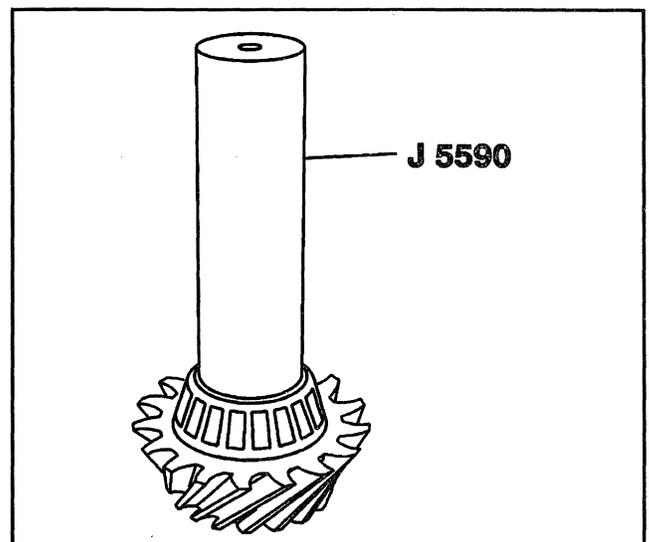
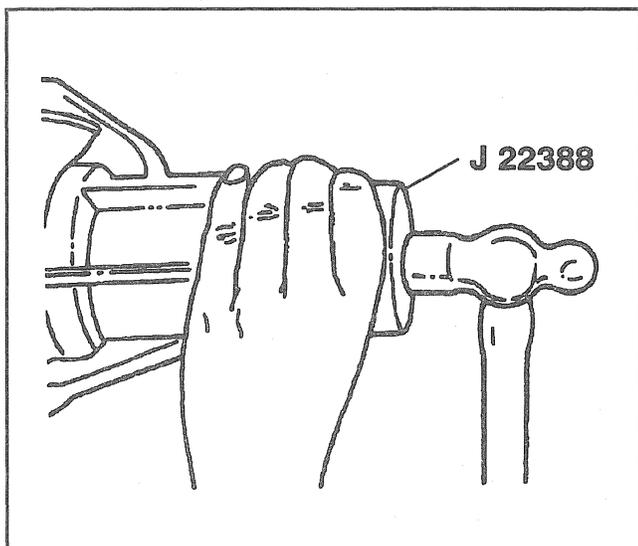
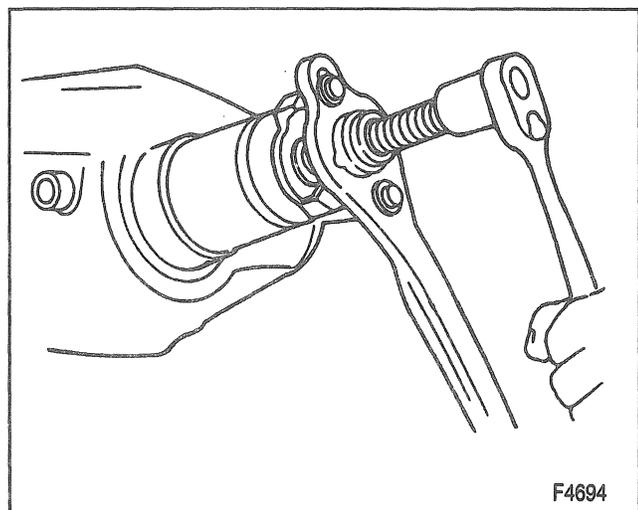

Figure 15—Installing the Pinion Inner Bearing
Figure 16—Installing the Pinion Oil Seal
Figure 17—Installing the Pinion Flange
- Press the bearing onto the pinion until the bearing cone seats on the pinion shim(s) (Figure 15).
2. A new collapsible spacer (11).
3. Pinion (15) to the axle housing.
4. Outer pinion bearing (10) onto the pinion using J 5590.
5. Pinion oil seal (9) using J 22388 (Figure 16).
6. The pinion flange (8) to the pinion by tapping it with a soft-faced hammer until a few threads show through the pinion flange.
7. The pinion washer (7) and nut (6) while holding the pinion flange with J 8614-01 (Figure 17).